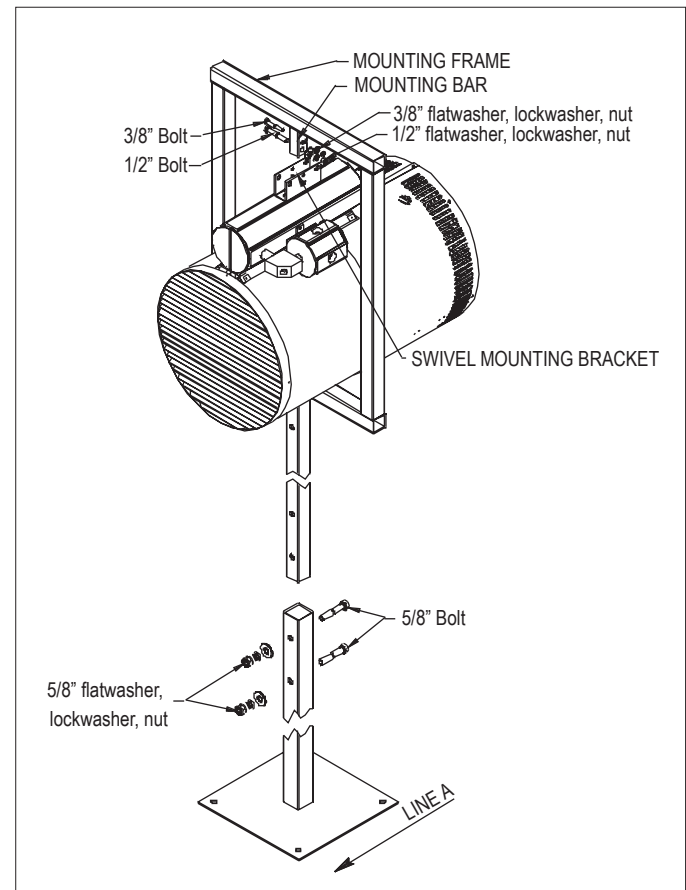

Figure 7 – Floor Mounting Stand
- 4.2 Position the base of the stand on the floor in the desired orientation. Ensure that "LINE A" (Figure 7, page 7), a line drawn perpendicular to the bolt holes in the mounting bar, is pointed in the desired direction of air flow.